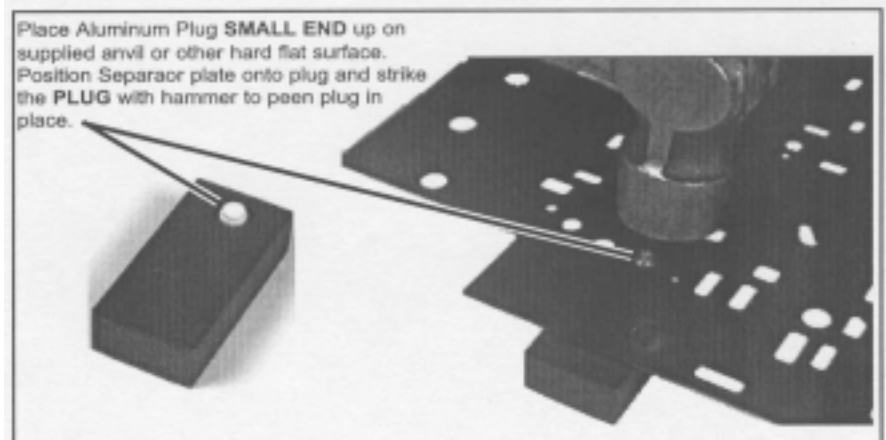

Figure 6. Separator Plate, Aluminum Plug Installation
STEP 9. Install Aluminum Plug in Separator plate (See Fig. 6). With Plug installed in hole, hold Separator plate parallel to anvil and strike plug squarely with a hammer. Peen plug just enough so it is snug in the hole and will not fall out easily.